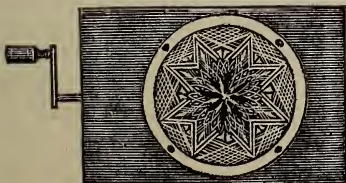

FIG. 17.—CHROMATROPE.
*Mechanical slides* include those to which motion is imparted either by slipping one glass over the other, or by a lever giving a circular movement to the picture, and are called slipping, lever and chromatrope slides. The latter consist of two disks of glass, brilliantly painted, with designs radiating from the center. (Fig. 17.) The disks are made to revolve in opposite directions by a ratchet movement communicated by means of a handle, producing many pleasing changes of design and color. The motion can also be imparted by means of bands instead of a rack. The silhouettes are only figures